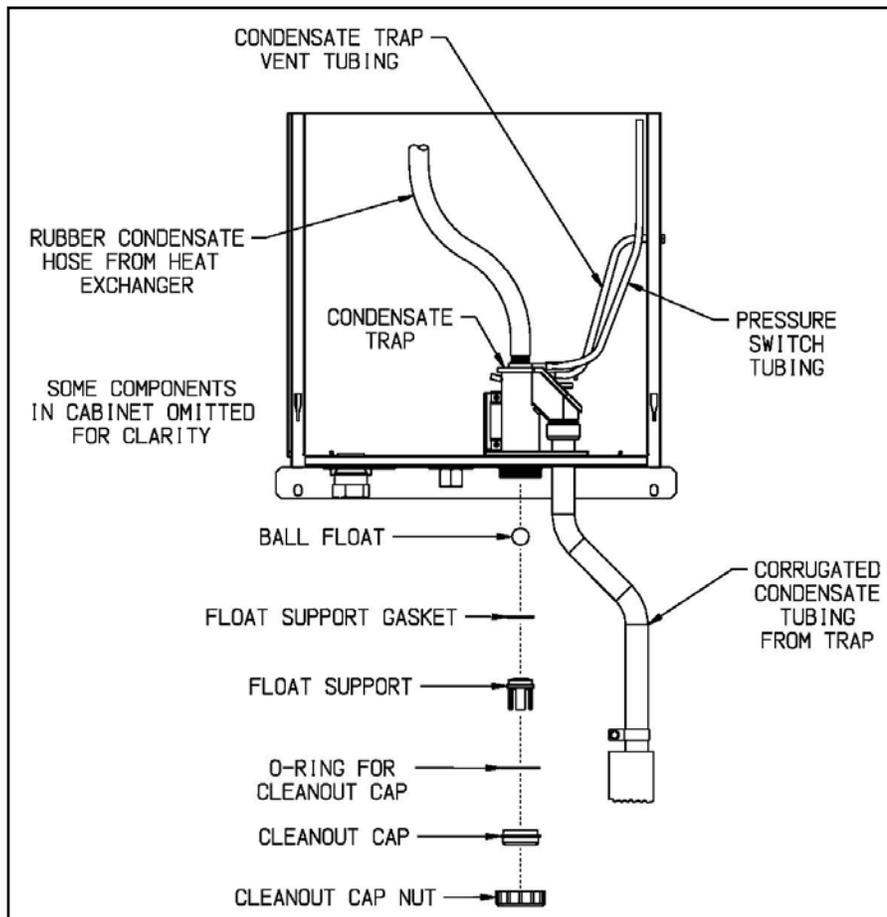

Figure 1.4: Condensate Trap Exploded Parts View
- p. **Inspect and clean the condensate trap.** Place a bucket under the condensate cleanout cap on the bottom of the boiler (Figure 2.1 of the K2 Installation Instructions included with this boiler) to catch water in the trap as well as the ball and ball support. Unscrew the cap, being careful not to lose the ball or ball support. Flush any debris found in the trap with water – do not use other cleaning agents. Reassemble the trap as shown in Figure 1.4.